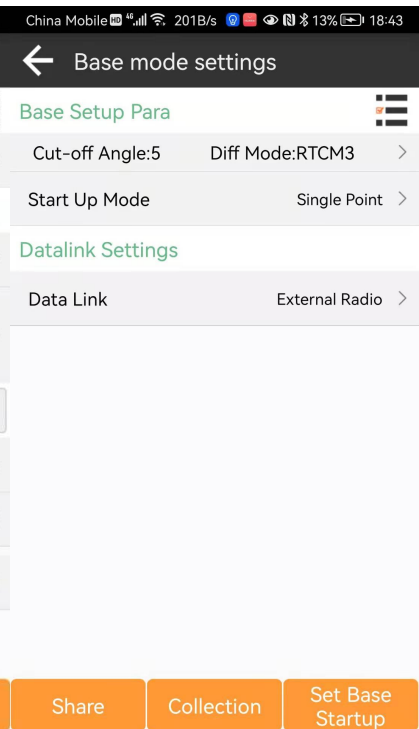

Figure 3.3-3
3. Positioning coordinates of survey points, as shown in Figure 3.3-3, refers to the user collecting a real-time point according to certain positioning data according to the current GNSS equipment, through which the real-time point is started according to the designated coordinate.